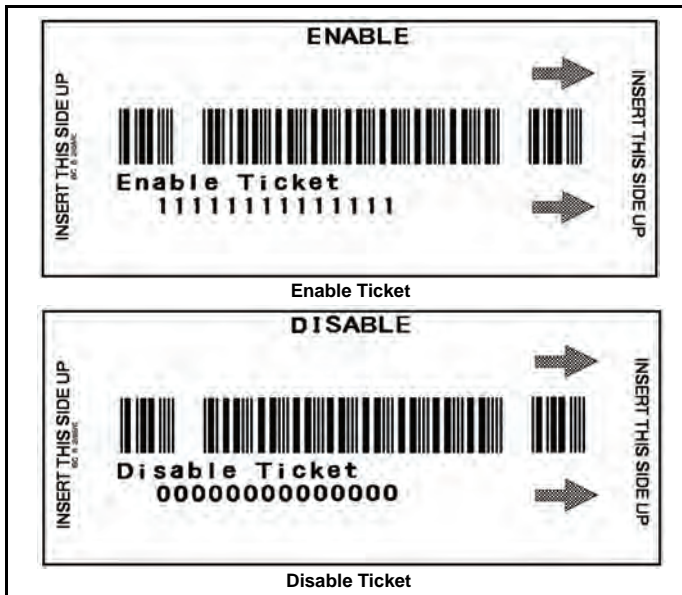

Figure 11 Typical Enable & Disable Tickets
Figure 11 on page 12 illustrates typical Enable and Disable Tickets.
Figure 11 illustrates typical Enable and Disable Tickets.
**NOTE:** See Figure 11 on Page 13 to identify a typical printed Enable or Disable Ticket.